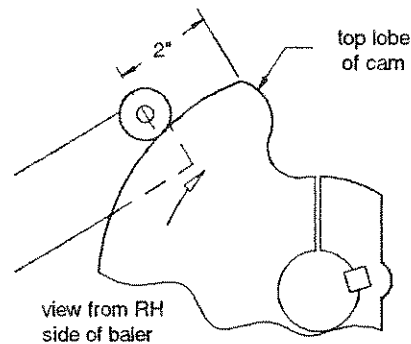

Fig. 23
2. Use the manual operator pendant to advance the knotter until the twine fingers reach the most rearward point of travel and the cam rollers are positioned as in Fig. 23